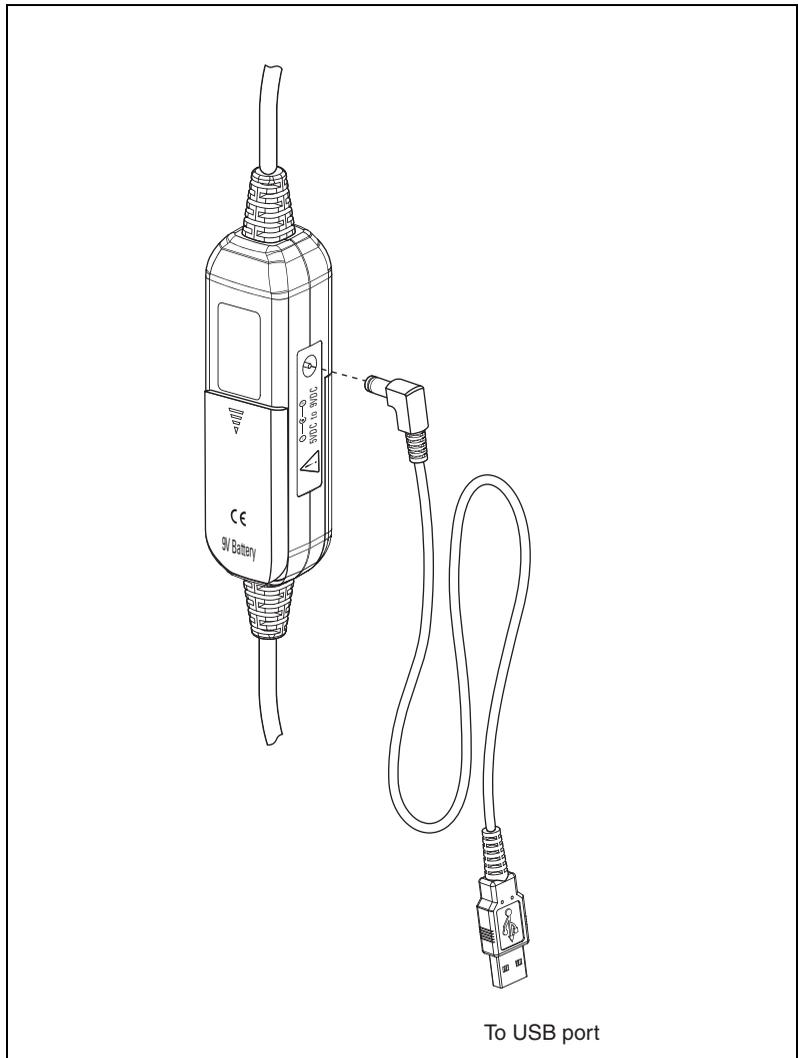

Figure 2. Plugging the USB Power Cord into the NI 5191
- To install the USB power cord, plug the cable into the power input on the side of the main probe body, as shown in Figure 2, and connect the USB plug into a USB port on a computer or embedded controller.